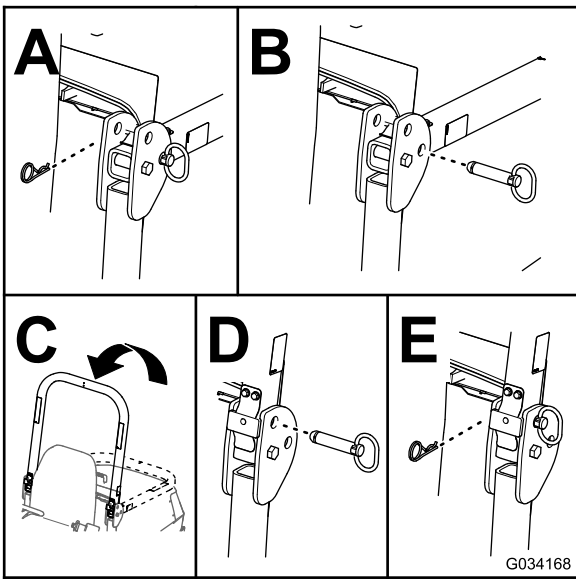

Figure 25
2. Remove the cotter pins and pins from the roll bar (Figure 25).
3. Raise the roll bar and secure it in place with the pins and cotter pins (Figure 25).